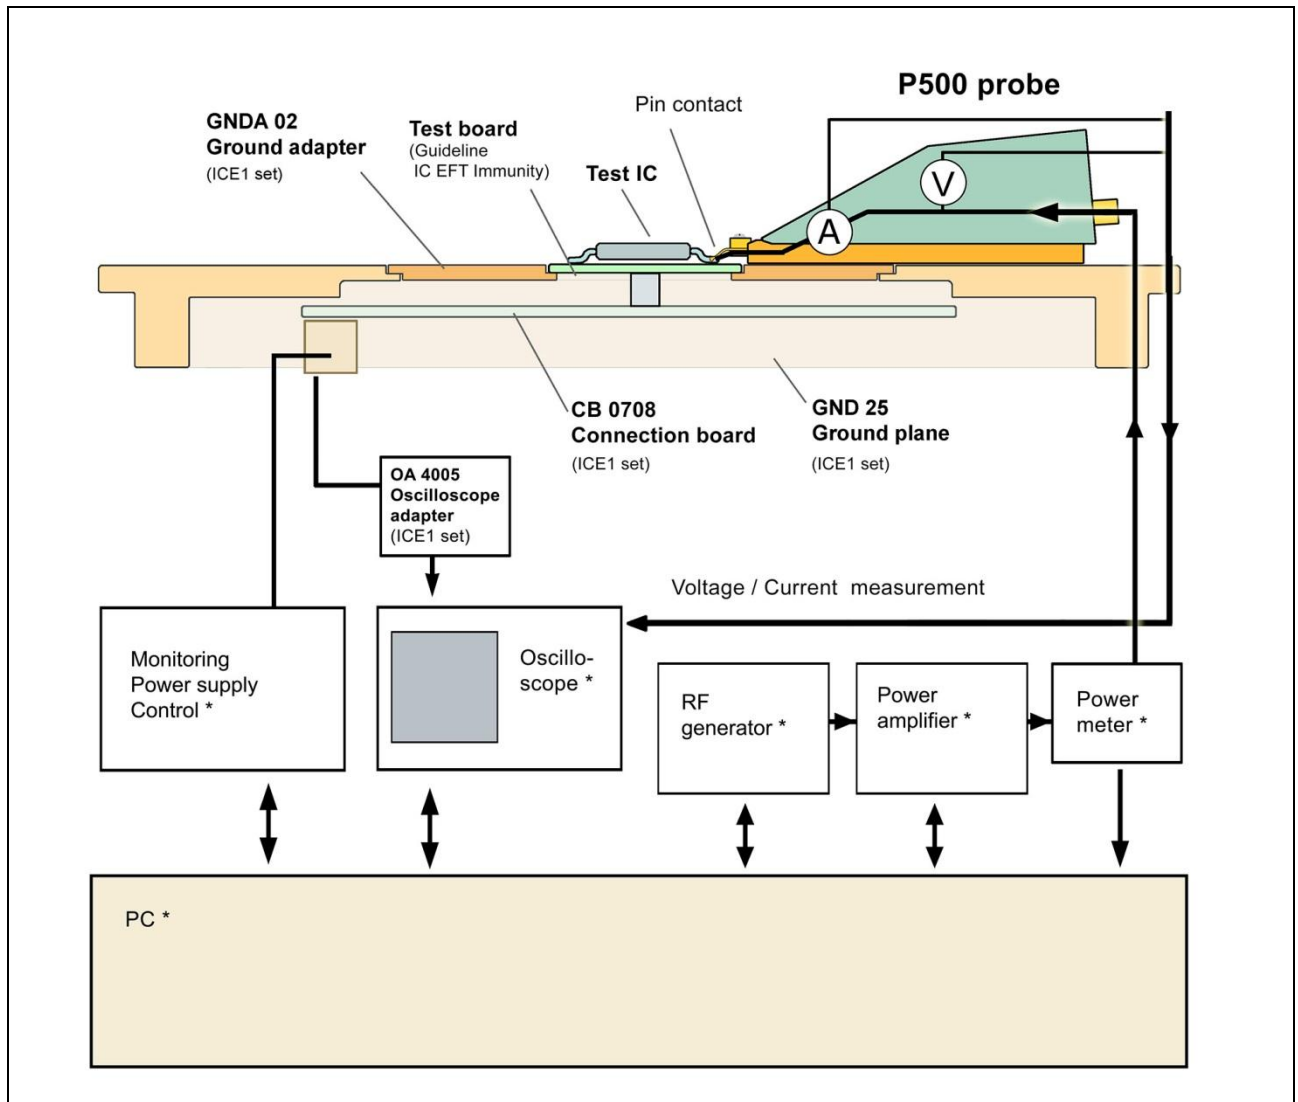

Figure 6: Measurement set-up with ICE1 set (The devices marked with \* are not included in the scope of delivery of the ICE1 set / P501 / P503 set.)
**Figure 6** shows the whole IC Test System schematically including the ICE1 IC test environment set. In this set-up the DUT (test IC) is connected to a special test board1. The test board is connected to the CB 0708 connection board. Both parts are put in the GND 25 ground plane. The P500 probe is magnetically fixed on this ground plane.